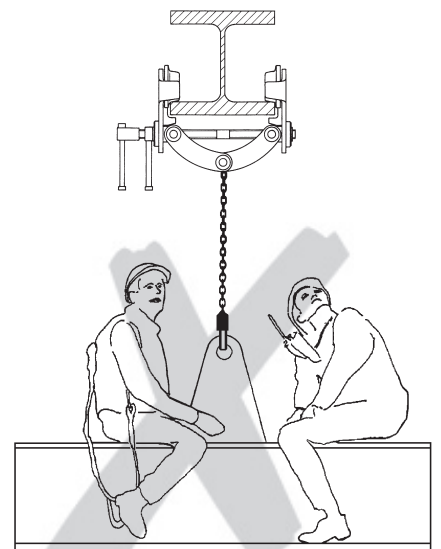

Fig. 5
- Do not use the hoist for the transportation of people (Fig. 5).